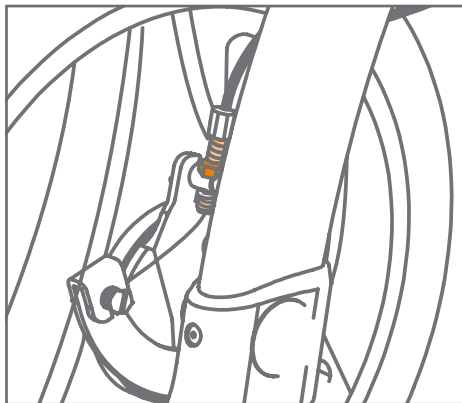

Figure 72: Brake adjustment via the circlip (dark orange) and the adjusting screw.
- b. Stay at the rear of the Rollz Motion Electric when adjusting the brakes. Loosen the locking ring at the bottom of the brake cable (pull the cable up to make it easier). Turn the adjustment screw above it to shorten or extend the brake cable **(Figure 72)**. Turn clockwise for more braking power, and anticlockwise for less braking power.